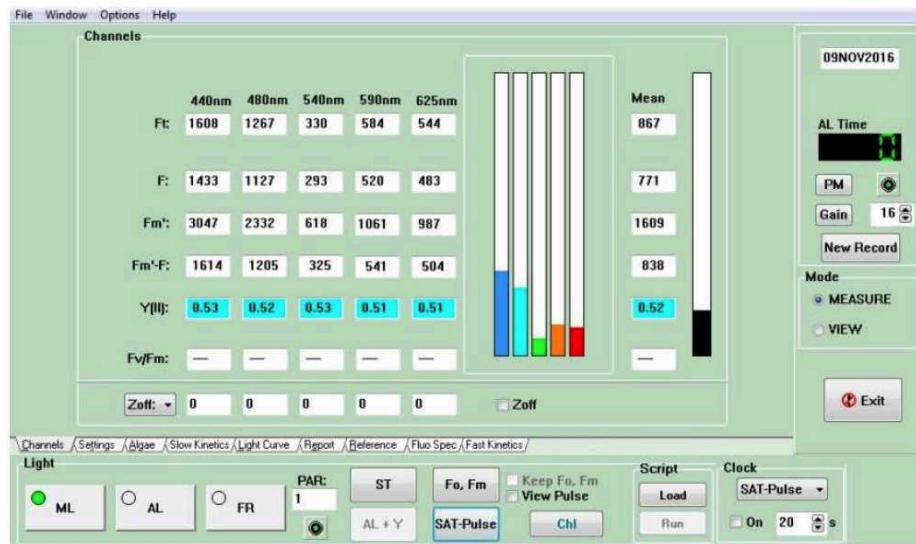

Figure 1. PhytoPAM-II Compact Version PhytoWin_3 program interface.
- 3 Start the PhytoPAM-II Compact Version up by toggling the power, and plugging in the charger. Connect the equipment to a laptop or computer by USB. Select the PhytoWin_3 program from the computer, select the appropriate measuring head you are using (Compact Version = "Phyto Compact Unit"). See **Figure 1** for the software interface. In order to take measurements ensure that the program is in "MEASURE" mode. "VIEW" mode is exclusively for reviewing record files (*i.e.*, data collected). Ensure the "ML" (measuring light) light is selected (signalled by a green light), and that "AL" (actinic light) and "FR" (far red) are not selected. Wait for the light directly under the PAR input to be green before proceeding with any measurements (if the equipment is not ready the light will be red). If you have not deduced a gain to use during measurements then proceed to step 3.1, otherwise proceed to **Step 4**.